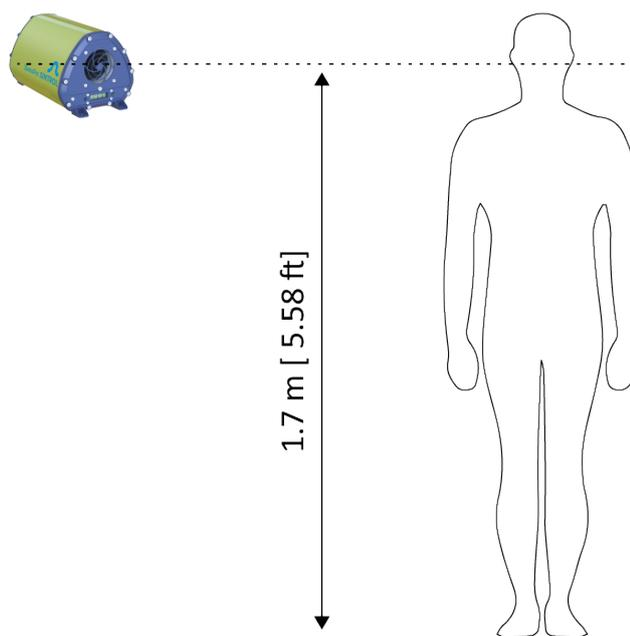

Figure 16: Installation height to monitor occupational dust exposure
- To monitor how much people in the working area are exposed to dust, install the device at an elevation that corresponds to the height at which an average person is breathing in the dust (Figure 16).